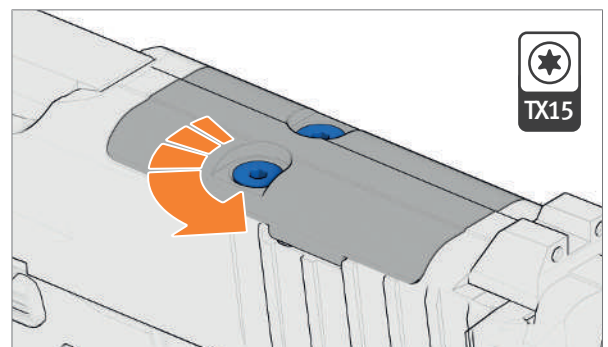

Fig. 40: Loosen screws
2. Loosen screws and remove them (Fig. 40).